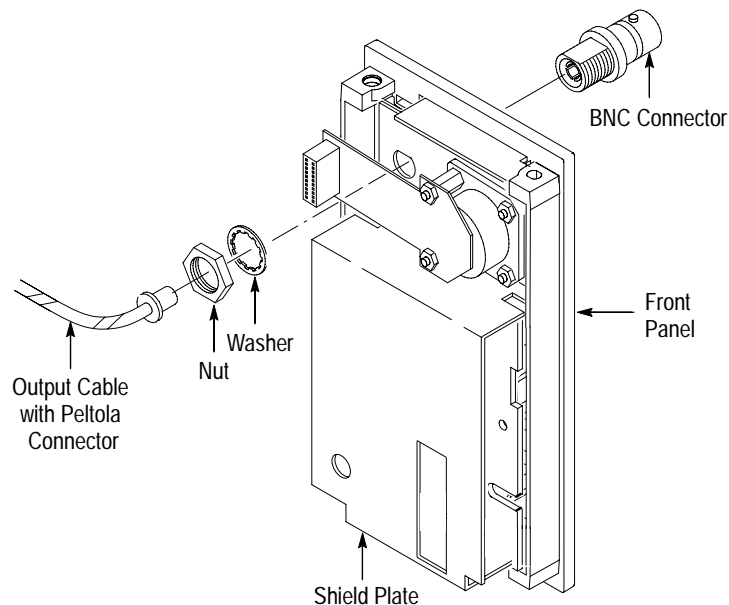

**Figure 7-5: Removing the Latch Bar Assembly**
- Push the latch bar forward until it clears the the retaining latch. Refer to Figure 7-5.